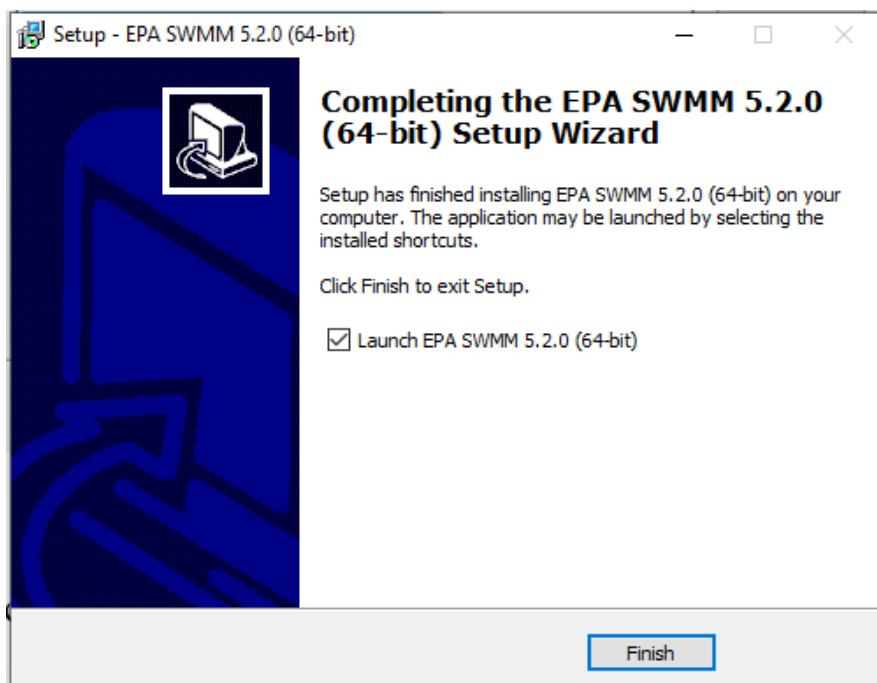

Figure 1-4. Finishing SWMM installation
- *Step 5:* Finish installation and start SWMM (Figure 1-4).